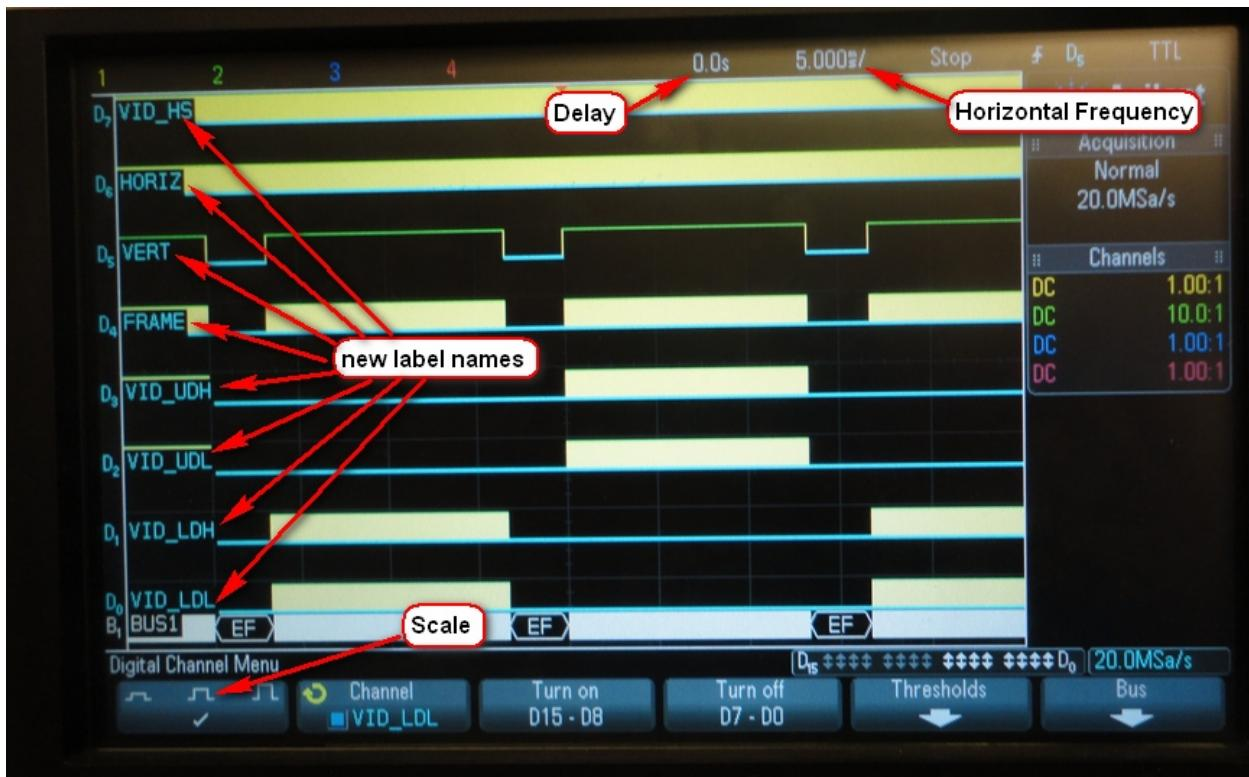

Figure 33 - New setting for labels, delay, and frequency
- The result should look like the “New label names” in **Figure 33**.
- Set delay to **0.0s**. See **Figure 33**.
- Set **Horizontal frequency** to **5.000m/s**. See **Figure 33**.
- Set **Scale** to medium. See **Figure 33**.